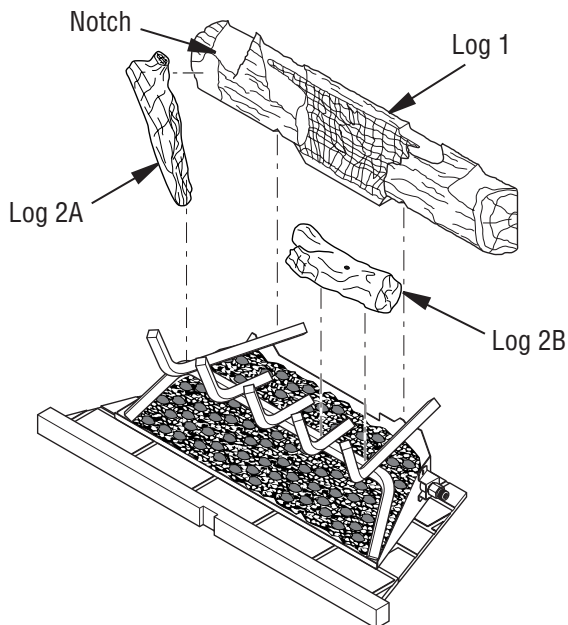

Figure 26 - Installing Logs 1, 2A and 2B
1. Place large back log (log 1) onto grate making sure notches rest over grate (see Figure 26).
2. Insert lower end of log 2A between first two grate fingers and position upper end into notch on front of log 1. See Figure 26. Place log 2B on front right side of grate as shown in Figure 26.